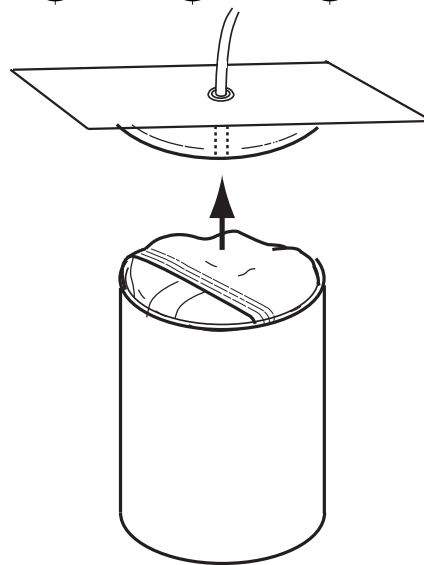

Figure 7.4.3
- * Push the pack into the case until the surface of the pack to be flat. Thrust the pipe protruding from the back of the lid onto the top center, not on the tug (Figure 7.4.3).
- (4) Attach the case onto the upper cover not to scratch the o-ring on the upper cover.
- (5) Tighten four screws (A) to fix the case onto the upper cover.